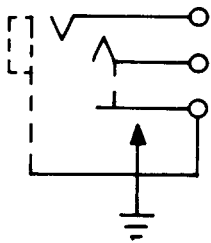

Fig. 11—512A Jack
2.11 512A: The 512A (Fig. 11) is a unit-type jack.